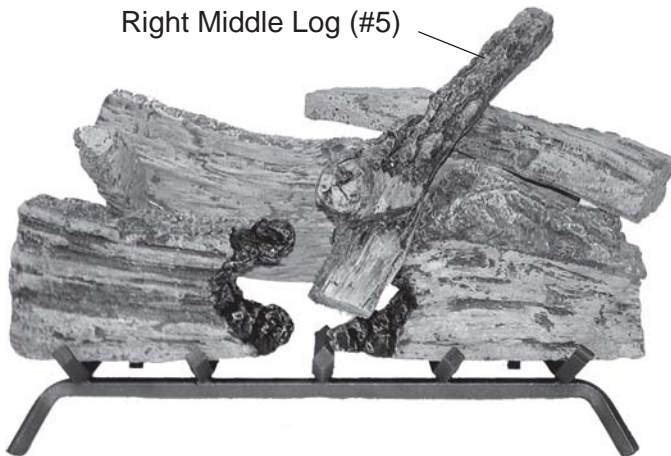

Figure 107 - Installing Right Middle Log (#5)
7. Place front of Right Middle Log #5 on top right of Log #1B. Rest back end of Log #5 on top right of Log #4. See Figure 107.